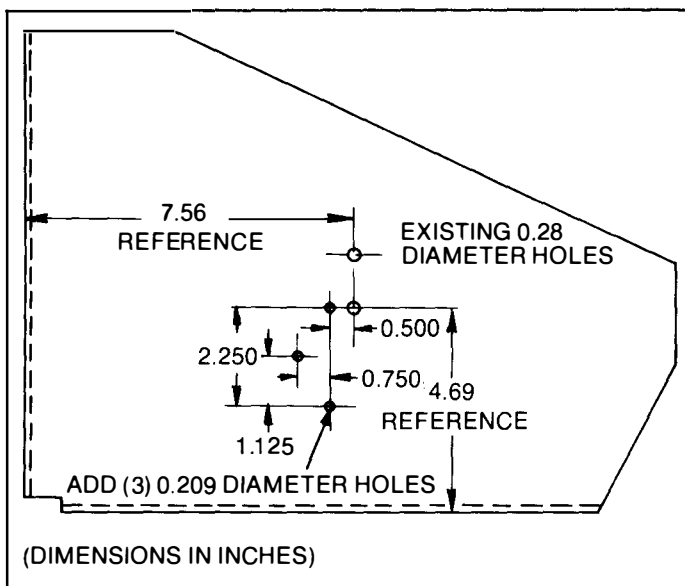

Fig. 2-5. Flux shifter mounting hole pattern
For AK breakers equipped with EC or power sensor systems, the flux shifter mounting holes must be added to the left side of the front frame. The drill pattern for the required three (3) 0.209 diameter holes is given in Fig. 2-5.